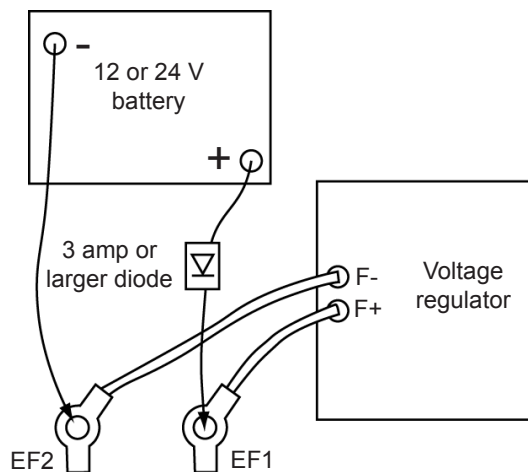

Figure 17: Field flashing setup with the field wires connected to the regulator
6. Start the generator, and check for voltage build up. Reflash if the generator output voltage does not build up, or flash with the generator running, the field coil wires connected to the regulator, and a 3-amp or larger diode off the positive terminal of the battery per Figure 17.